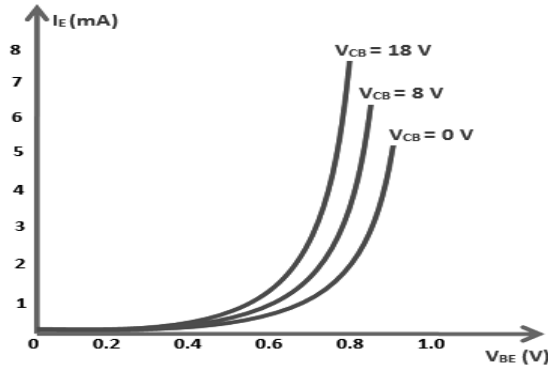

Figure: 1 Input Characteristics in CB mode
- Connect the electrical circuit as shown in Figure 1.